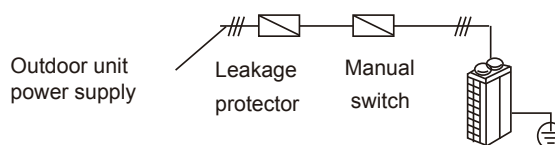

Fig. 6-1
- All the indoor units in a system (i.e. all the indoor units connected to the same set of outdoor units) should be tied into the same power circuit with the same power supply, overcurrent and residual current protection (leakage protection) and manual switch, as shown in Figure 6-1. Do not install separate protectors or manual switches for each indoor unit. Powering on and shutting down all indoor units in a system should be done simultaneously. The reason for this is that if an indoor unit that is running were to suddenly power off whilst the other indoor units continued running, the evaporator of the powered-off unit would freeze since refrigerant would continue flowing to that unit (its expansion valve would still be open) but its fan would have stopped. The indoor units that remain running would not get sufficient refrigerant so their performance remain running would not get sufficient refrigerant so their performance would suffer. Additionally, liquid refrigerant returning directly to the compressor from the powered-off unit would cause liquid hammering, potentially damaging the compressor.